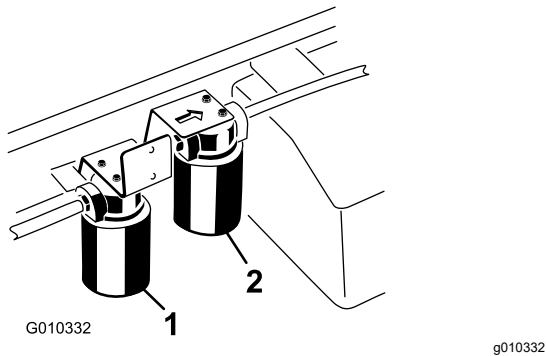

Figure 69
5. Place a drain pan under the filter and remove the filter (Figure 69).
4. Clean the area around the high-flow-filter mounting area (Figure 69).